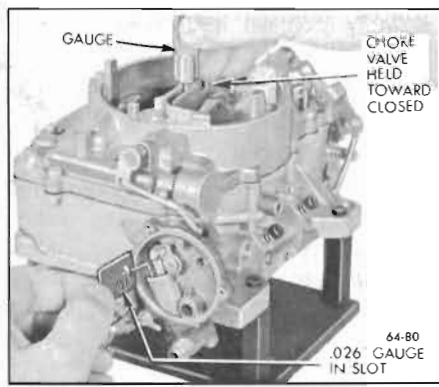

Figure 64-80—Choke Piston Adjustment
1. Adjust Choke Piston Linkage. Inside choke piston bore on left side, about 1/2 inch down, is a small slot. Insert 1/8 inch bent end of .026" wire gauge into upper end of slot; then close choke valve by pressing on piston lever in choke housing until piston stops against gauge. Check opening between upper edge of choke valve and inner wall of air horn using .100 gauge. See Figure 64-80. If adjustment is required, place Tool J-5197 on lower section of of choke rod and bend as necessary.